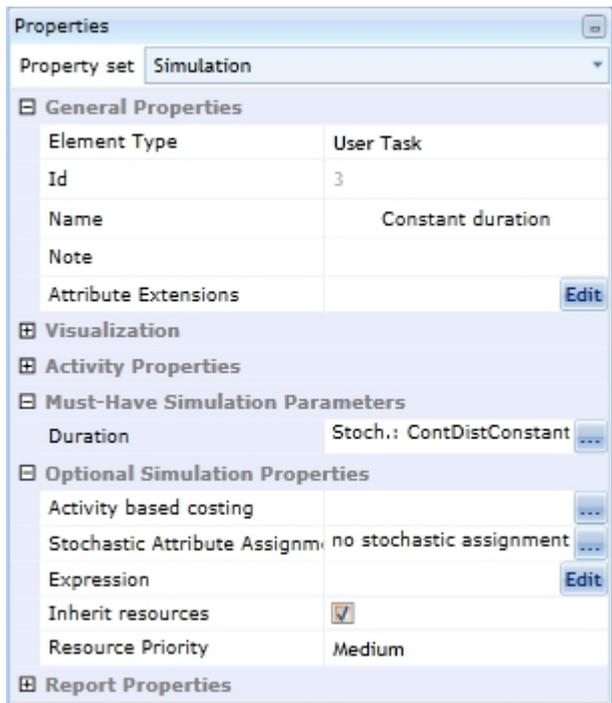

Figure 4: Simulation Properties of an activity
3. Now click the button right of the empty field of the Duration option under the Must-Have-Properties (See Figure 4 below)